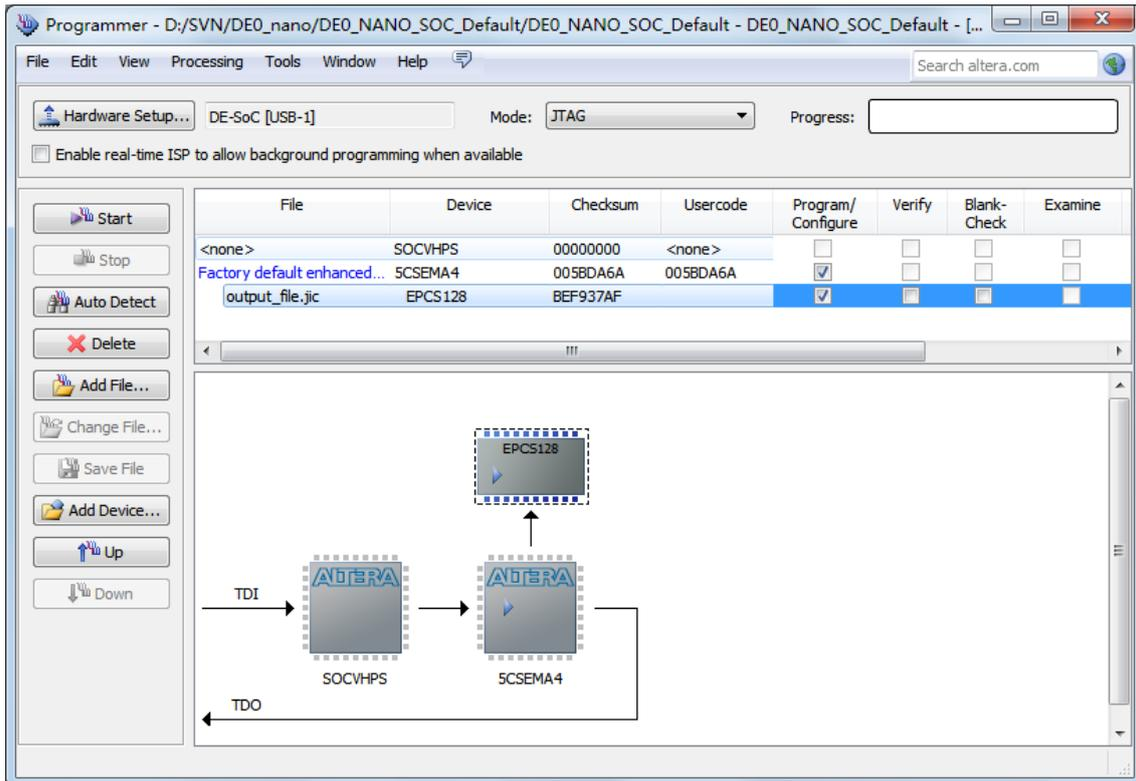

Figure 7-8 Quartus II programmer window with one .jic file
5. Program the EPCS device by clicking the corresponding **Program/Configure** box. A factory default SFL image will be loaded, as shown in **Figure 7-8**.